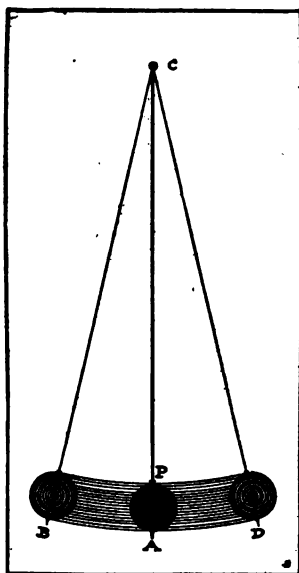

FIG. 138.
**The pendulum and its vibration.** A pendulum consists of a weight so suspended as to move freely (Fig. 138). The distance from the point of suspension to the center of the weight is the length of the pendulum. Let us study the swinging to and fro of a pendu-
**Exercise 1.** Arrange a pendulum (Fig. 138) and start it swinging back and forth.